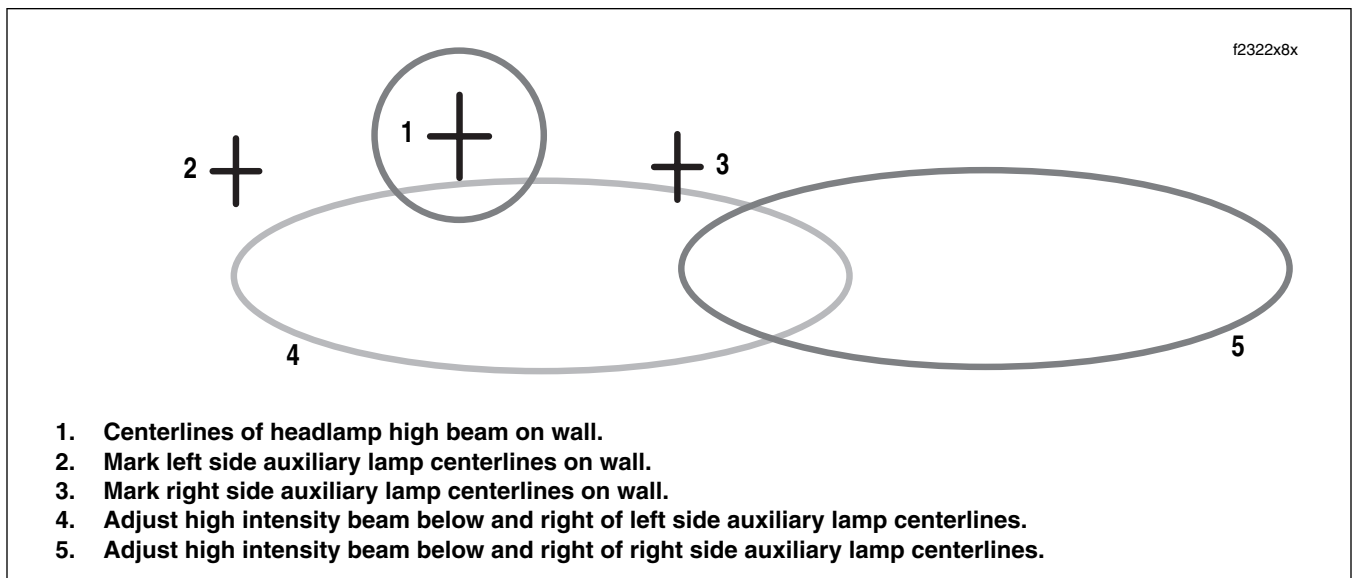

Figure 8-9. Properly Aim Auxiliary Lamps
3. See Figure 8-9. Mark the center of the headlamp high beam by marking vertical and horizontal lines (1) on the wall in the center of the beam.